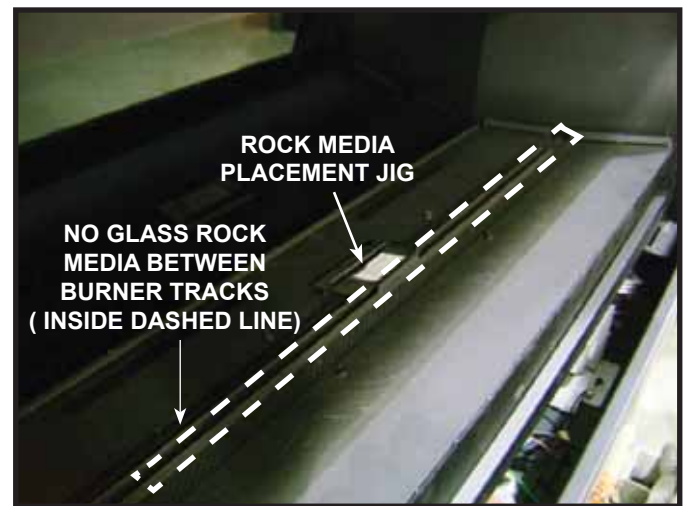

Figure 14.1. Rock Media Placement Jig
2. Figure 14.1 shows the outline of the media tray edges and pilot transient ports. DO NOT install glass rock media in the outlined area. This may cause delayed ignition, undesirable burner flame, or lighting issues.